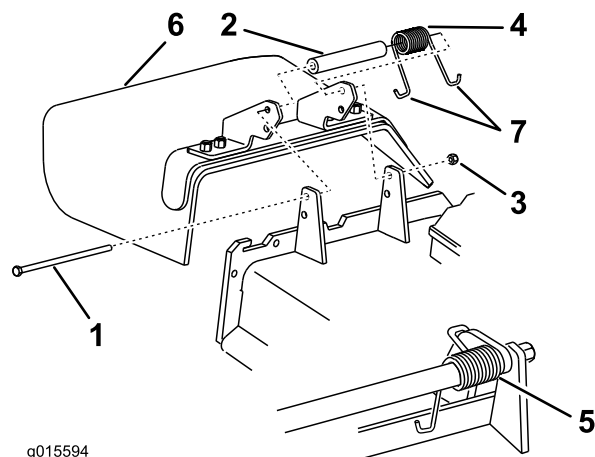

Figure 82
1. Remove the locknut, bolt, spring and spacer holding the deflector to the pivot brackets (Figure 82).
Note: Make sure one J end of spring is installed behind deck edge before installing the bolt as shown in Figure 82.
3. Install bolt and nut. Place one J hook end of spring around grass deflector (Figure 82).